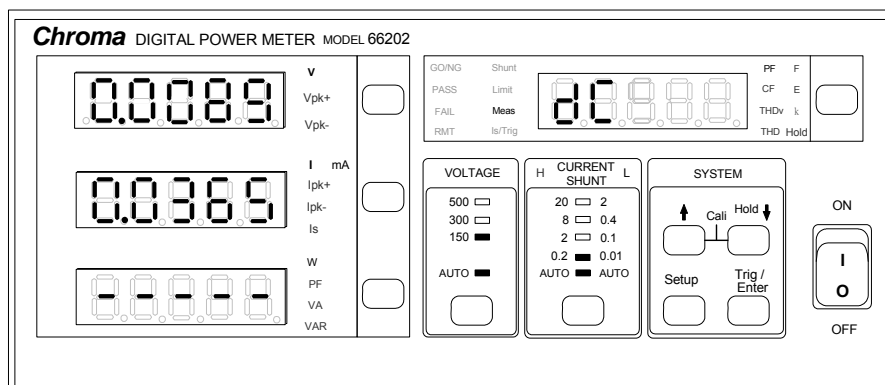

Figure 4-25 Setting dC Parameters
2. In the special measurement display a blinking pattern will appear. Use \uparrow , \downarrow to select dC and the input signal will appear on the left for the measured voltage and current with DC component only (the AC component signals are filtered out) as Figure 4-25 shows.